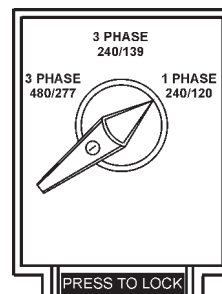

Figure 40. Voltage Selector Switch
5. Place the voltage selector switch in the desired voltage position (Figure 40).